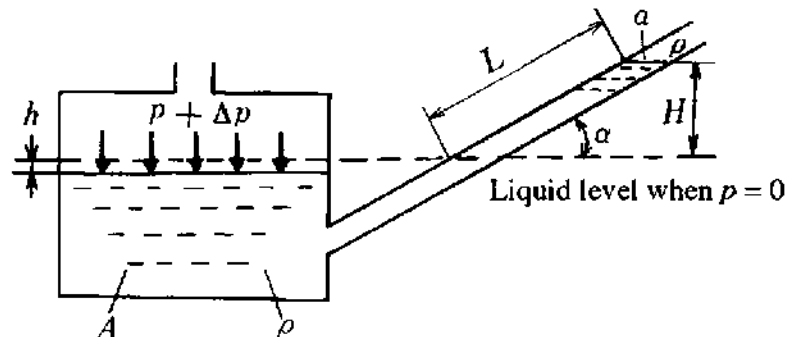

Fig. 3.24
4. On the inclined manometer in Fig. 3.24, whenever  $h$  changes by 1 mm, how high (in mm) is  $H$ ? (Sectional area  $A = 100a$  and  $\alpha = 30^\circ$ .)